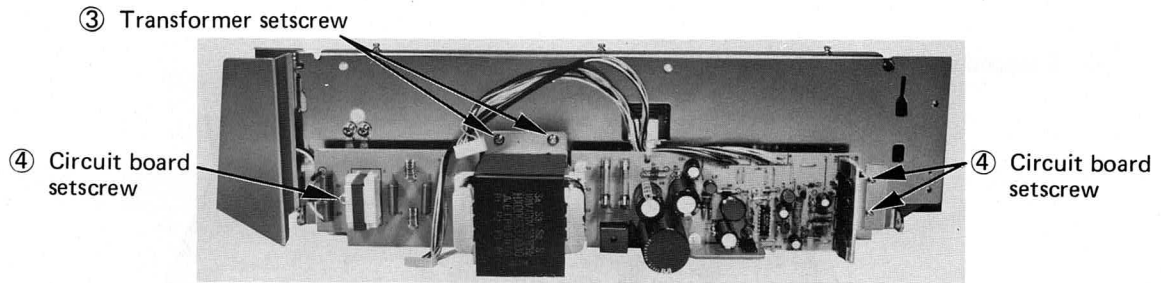

Fig. 5.35
Step 2. Remove two fixing screws ③ of the transformer and three fixing screws ④ of the circuit board. (Fig. 5.35)